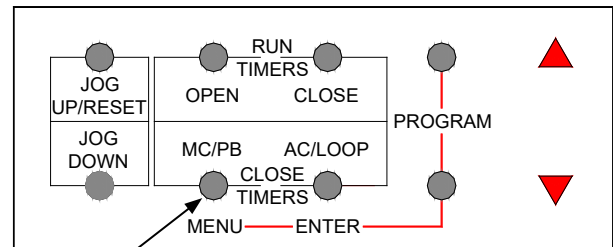

Figure 44: MENU Button
6. Press and release the MENU button twice. Ready displays in the LCD. See Figure 44.